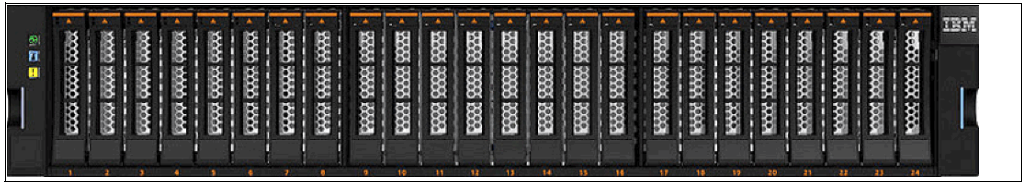

Figure 1-3 SFF expansion enclosure
- Small form factor (SFF). Figure 1-3 on page 6 shows the SFF expansion enclosure that can hold 24 2.5" drives and is 2U high.